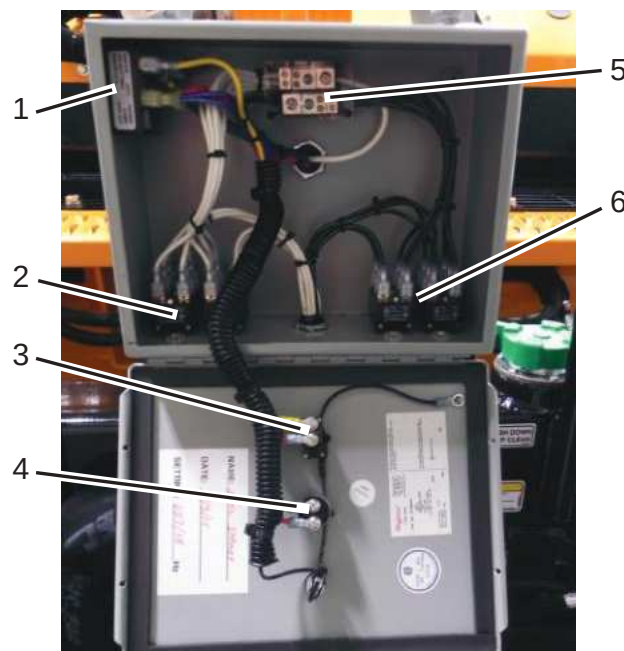

Figure 5-23. Electric Heat Elements
The electric heat control box contains the element breakers and main outputs for the screed heating system. Powered by 220VAC and 240VAC, each element has two breakers. **(Figure 5-23)**
- Each element output consists of two wires--one connects to the L-1 circuit and the other to the L-2 circuit. **(Figure 5-23)**